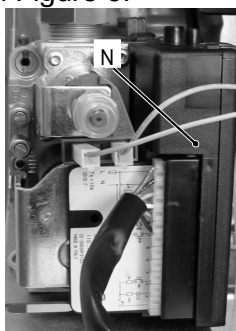

Figure 4
- 2) Disconnect the Ignition device N (Figure 4).
- 2) Disconnect the connector D (Figure 2) and remove the full sequence ignition device N (Figure 4)